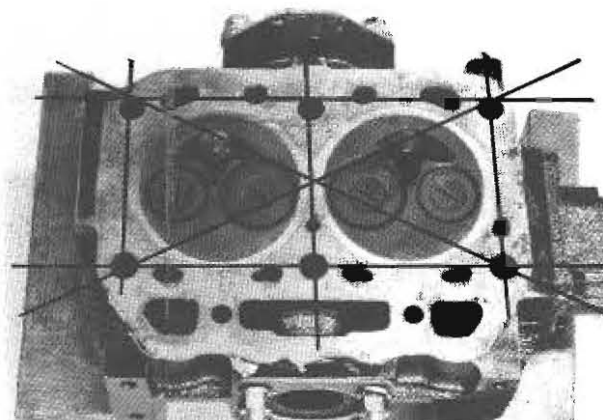

Fig. 3-25 Check Head Distortion
4. Inspect cylinder head for cracks, damage and distortion (Fig. 3-25). Use a straight edge and feeler gauge to measure distortion. If there is more than .0028 in. (0.070 mm) distortion on the two-cylinder engine head or .0039 in. (0.10 mm) distortion on the three-cylinder head, resurface or replace the head.